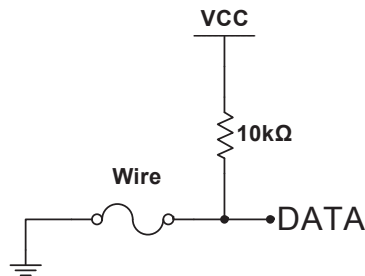

Figure 3: Simple Switch Circuit
- 2.1.1. Build the switch in Figure 3. For now, just use a wire as the switch. Plug the wire into GND to bring DATA (the switch output) low, alternatively, unplug it to bring DATA high.